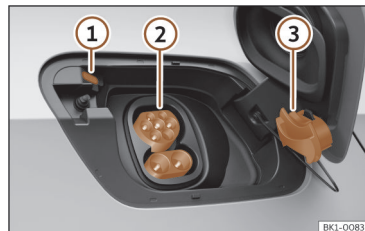

Fig. 49 Behind the battery charging cover on the rear right-hand side: charging socket.
»» **Fig. 49**
- Remove the protective cap and hang it on the hook»» Fig. 49 ③
- Plug the charging station's charging connector into the charging socket»» Fig. 49 ②.
The LED (charging process indicator) of the charging socket flashes or flashes white »» Fig. 49 ①»» page 73
The charging process display on the charging socket flashes green»» Fig. 49 ①.
- Press the **STOP** function button on the infotainment system's display. The charging process indicator located next to the charging socket lights up white»» Fig. 49 ①. The charging connector is unlocked.
- Place the protective cap on the charging socket's lower connection»» Fig. 49 ③